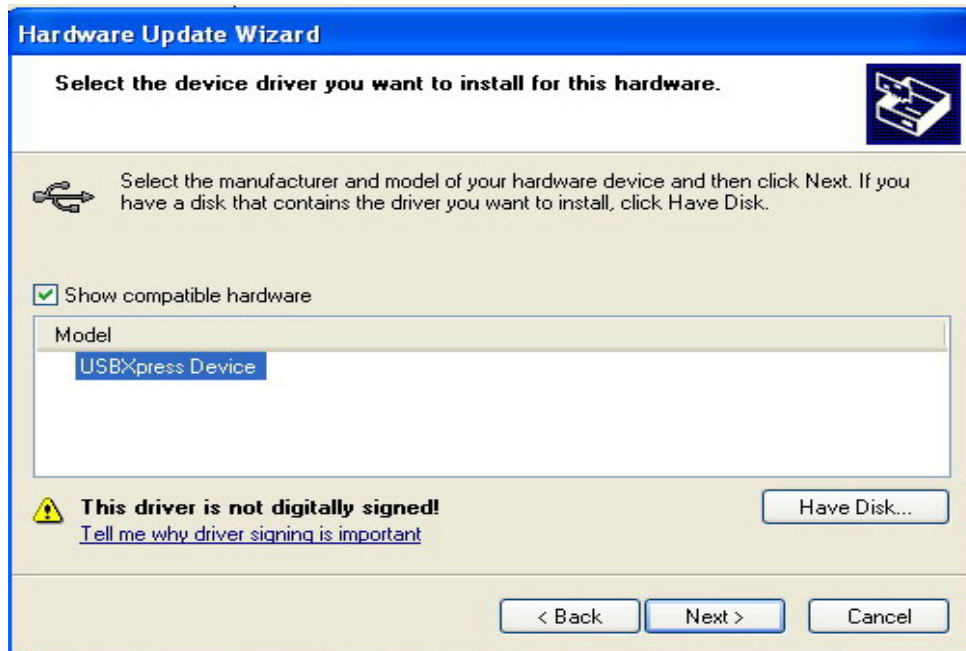

Figure 6
5.4 5.4 Next move, the choice" install from the disk" figure 6